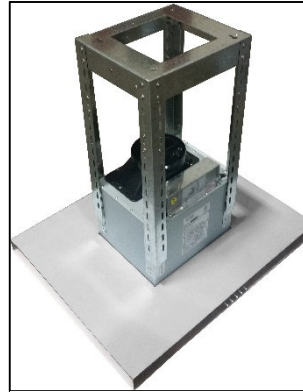

Figure 4
16. Attach the lower telescopic stack to the hood motor box using the 4mm x 8mm screws and the round screw washers. Then attach the upper telescopic stack to the lower telescopic stack. Adjust the height of the stack according to your desired height. The end result should be as shown on Figure 4.